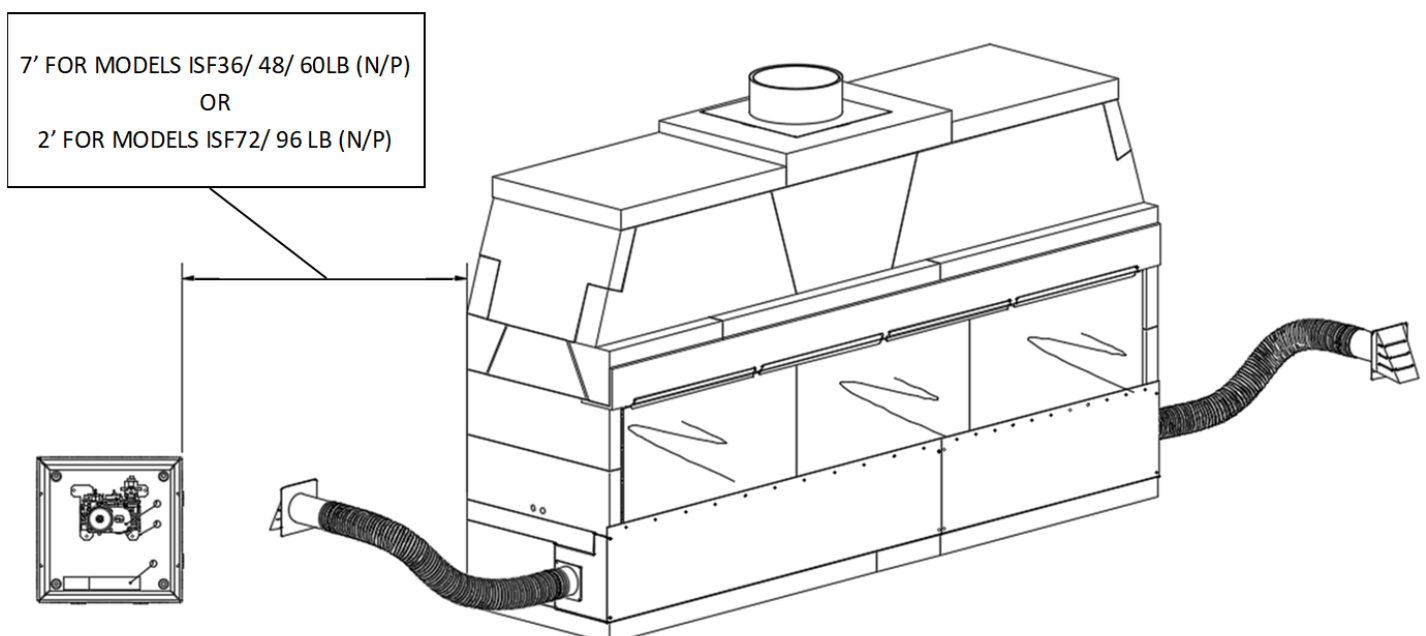

FIGURE 44
- 1) The valve control box comes with an 110" pilot assembly lead; therefore, the box must be mounted within 7' of the fireplace for burner models ISF36/48/60LB (N/P) and within 2' for models ISF72/96LB (N/P). **(Figure 44)**